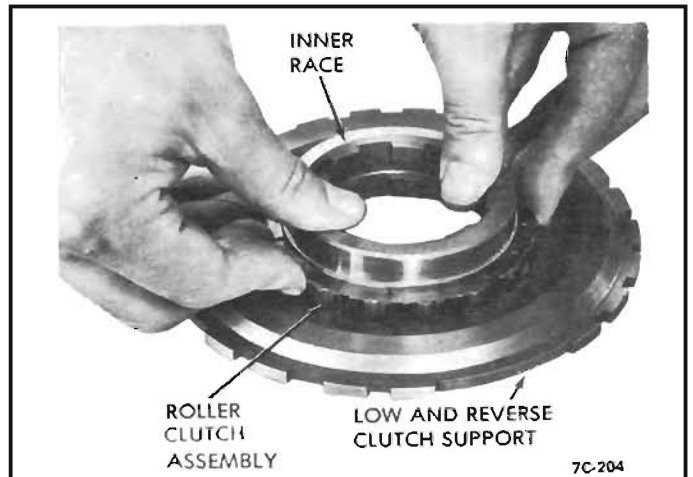

Figure 74 Roller Clutch Inner Race Installation
2. Install low and reverse overrun roller clutch assembly and inner race into the low and reverse clutch support. *See Figure 74.* Assemble with four (4) holes down or to rear of transmission.